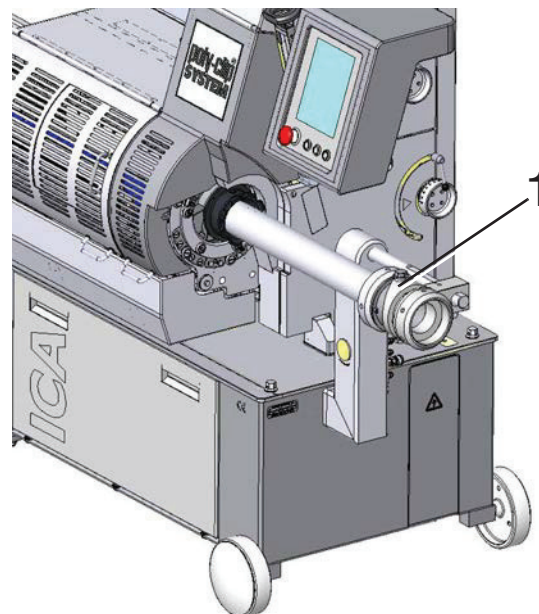

Fig. 1-26 1 Pivoting cross-piece
- Pivoting cross-piece (1, Fig. 1-26).